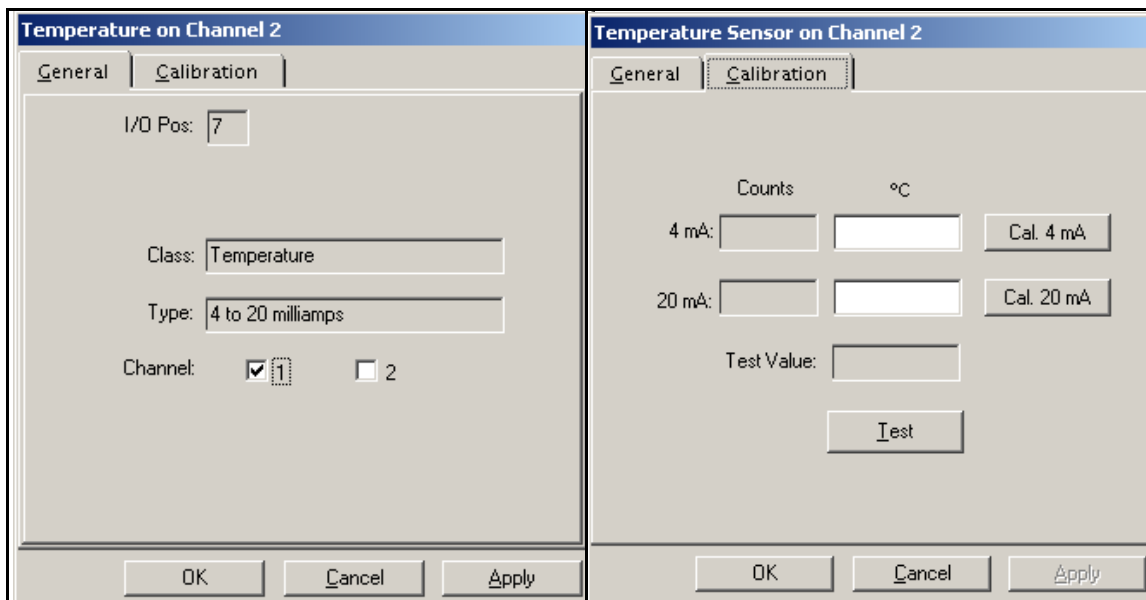

Figure 58: PanaView Temperature Assignments (two separate displays)
5. When a display similar to that shown in *Figure 58* below appears, make whatever selections and settings are appropriate under both displays (General and Calibration). Then, click on OK or Apply and the display returns to the list of selections.